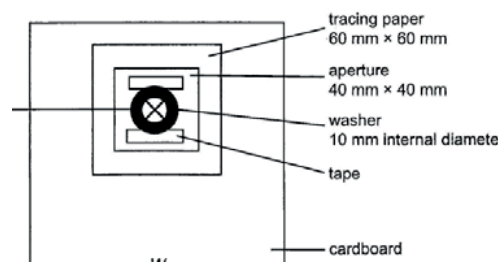

Fig. 2.1
- Constructed illuminated object (washer with internal diameter $10 \pm$ mm) and crosswires as used in 2011 A23 shown in **Fig. 2.1** below. 1